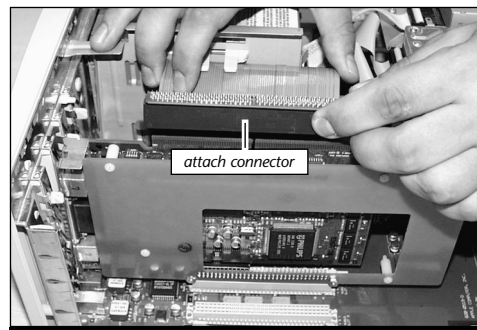

Figure 21: Attach video flex cable to AV or HPV card
18. Attach the connector on the video flex cable to the AV or HPV card (**Figure 21**). Gently press down on the outer edges of the connector to avoid pricking your fingers on the series of pins on top of the connector. If necessary, use a piece of foam from the packaging material your card shipped in to provide a cushion between your finger and the pins.